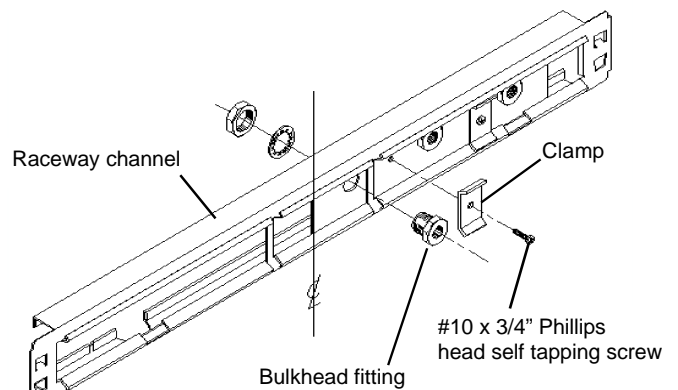

Figure 2
Slide the plate(s) into the end of the Raceway Channel with the plate's flanges pointing forward. See **Figure 1**. Position each plate so that the edge of the plate is at the centerline of the Raceway Channel. This will orient the **Bulkhead Fittings** opposite the access holes in the raceway cover. See **Figure 2**.
2. Secure each plate with two **Clamps** and two #10 x 3/4" Phillips head self tapping screws. See **Figure 2**.
3. Install the brass Bulkhead Fittings as shown in **Figure 2**.